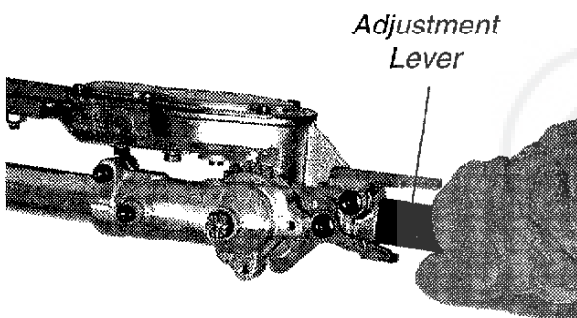

Figure 15
1. With your right hand, grasp the handle, located immediately aft of the hand guard. With your left hand, grip the adjustment lever on the cutter assembly. See Figure 15.